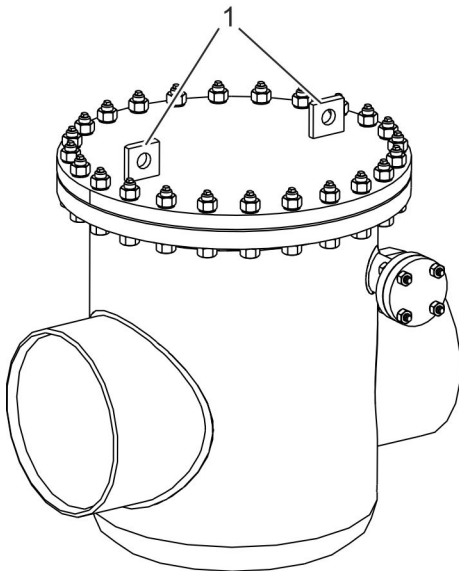

Fig. 11: Welded-on attachment points
1. ➤ Fasten hoist to the attachment points (Fig. 11/1) using suitable sling gear.